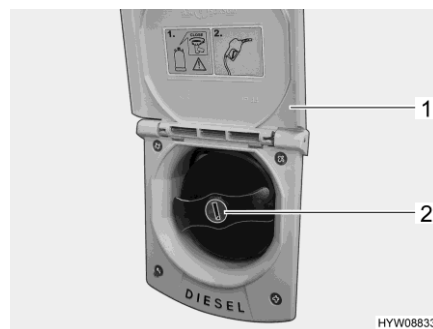

Fig. 38 Fuel filler neck
- Pull the flap (Fig. 38,1) upwards.
- Insert the key in the locking cylinder (Fig. 38,2) and turn it in an anti-clockwise direction.